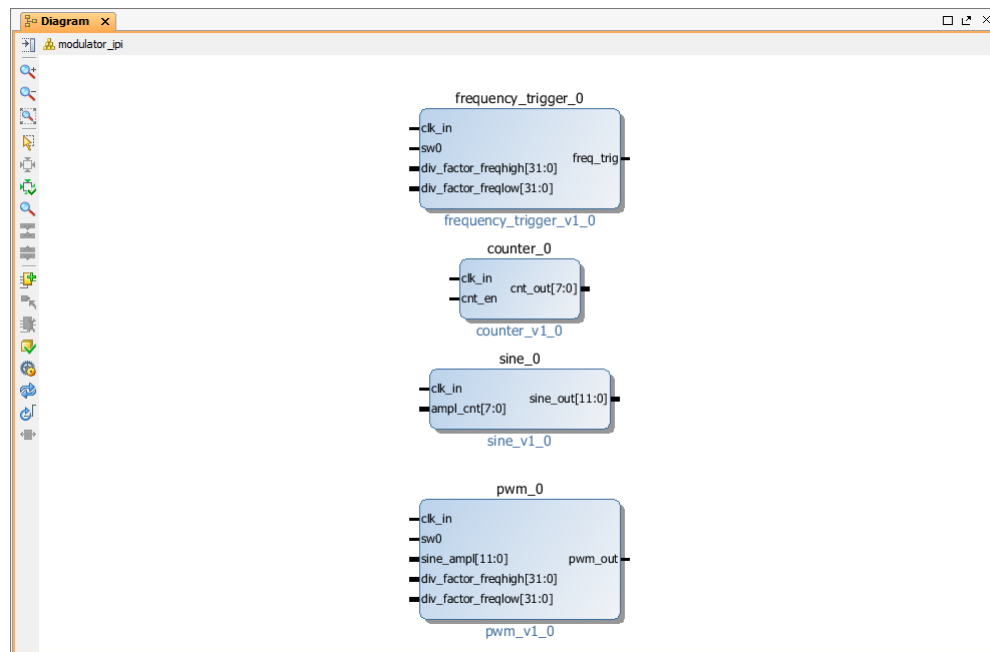

Figure 27. IP Integrator design canvas with all four re-customized IPs
- 3-1-8.** After we re-customize all four IPs, the IP Integrator canvas should look like as it is shown on the Figure 27.